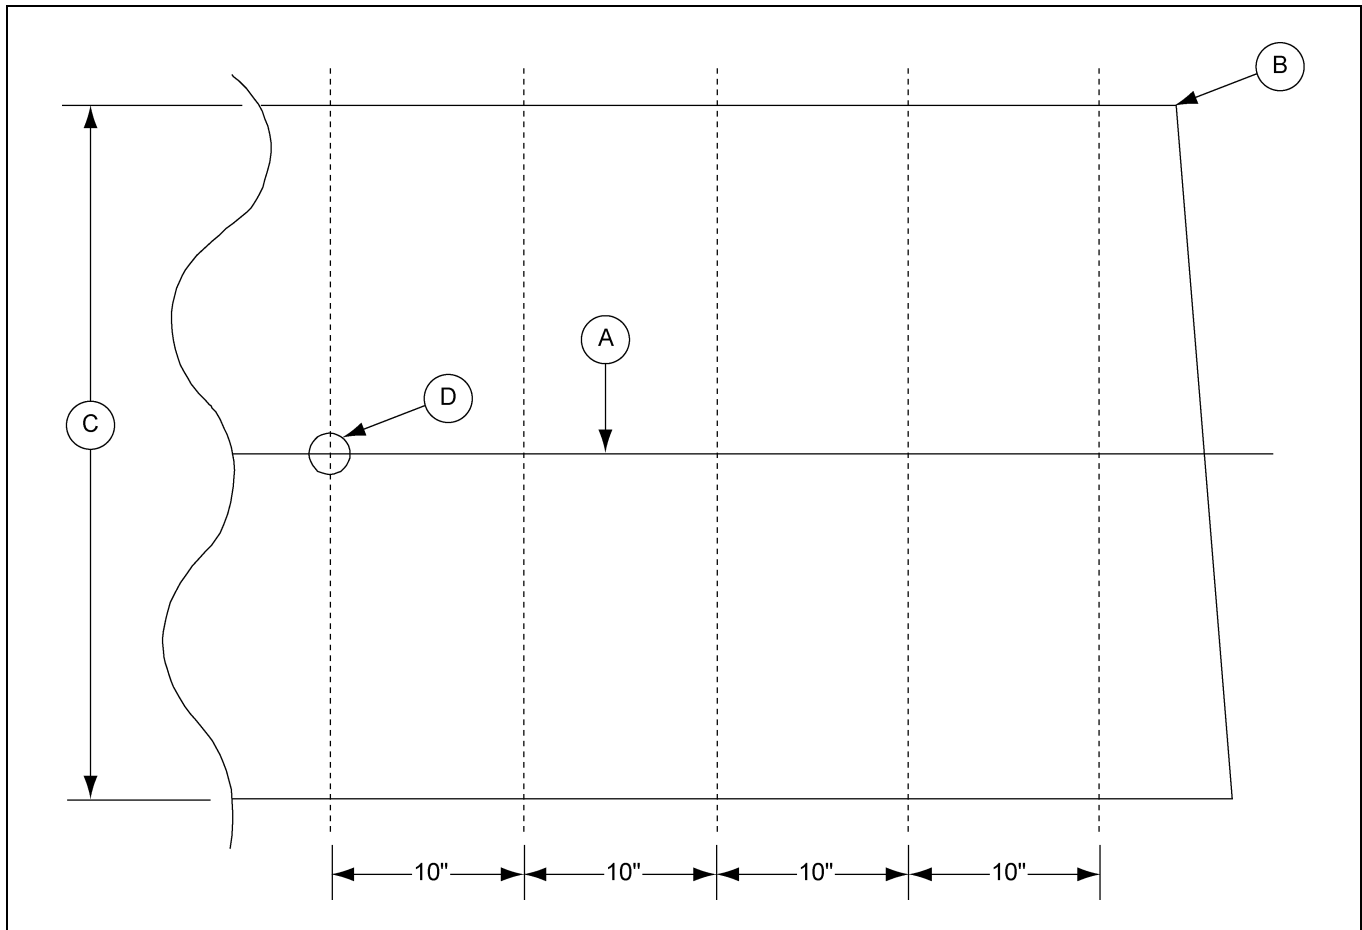

Figure 6A
1. To find the belt centerline, measure the belt width at five (5) points. Starting near the end of the belt, measure the belt width in 10" intervals, marking them as you measure. Each measurement shall then be divided in two (2) and marked. Using a straight edge, draw a centerline using the points as a guide. (See Figure 6A.)